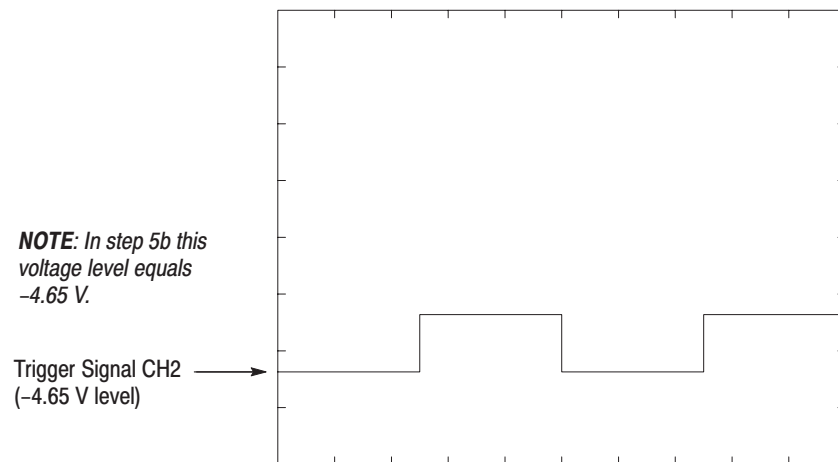

Figure 4-27: Trigger Signal (-5 V check1)
- c. Verify that no waveform is displayed on the oscilloscope (see Figure 4-27).